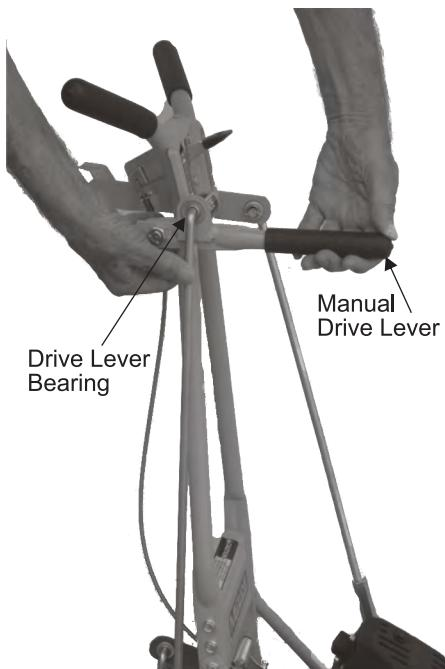

FIGURE 4: Insert the upper end of the drive control rod through the manual drive lever bearing, then secure with a cotter pin.
- B.** Rotate the manual drive lever for work, and insert the upper end of the drive control rod through the manual drive lever bearing (see Figure 4 on page 6).